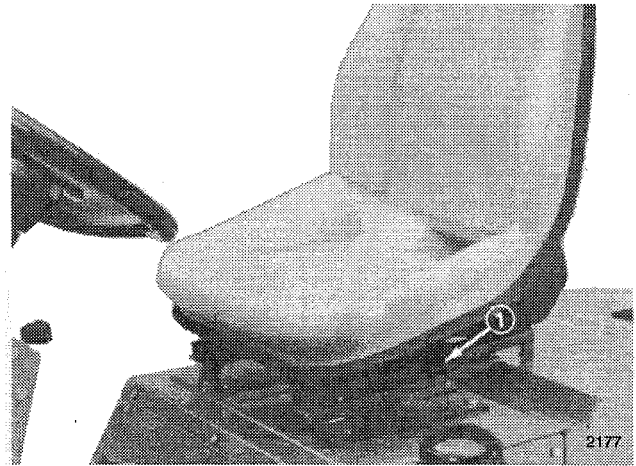

Figure 11
1. To adjust the seat move lever on left side of seat rearward (Fig. 11).